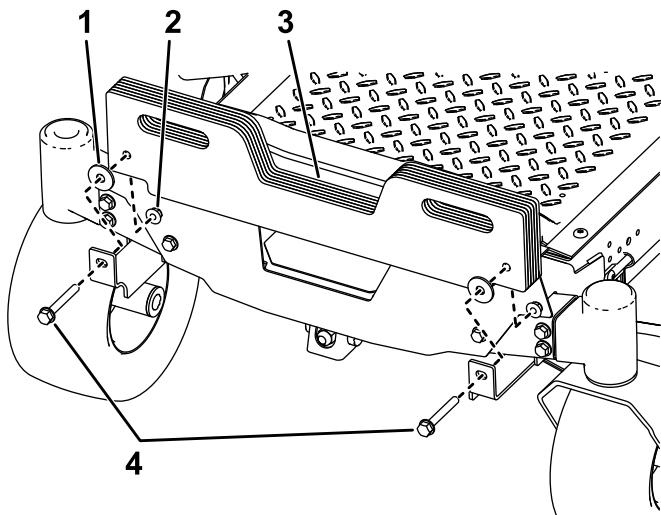

Figure 3
- If your machine has any other cutting deck, install 6 suitcase weights (Figure 3).